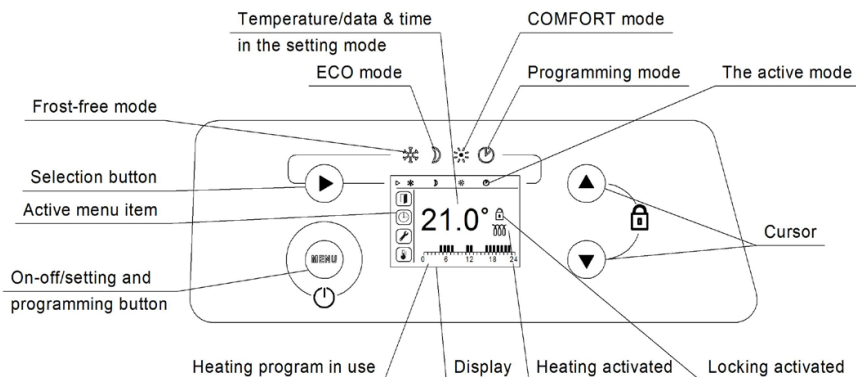

Fig. 6
5.8 Plug the power cord of the convector into a power outlet. The display on the control panel will light up (Fig. 6), the current time will be displayed. The convector is ready for operation.